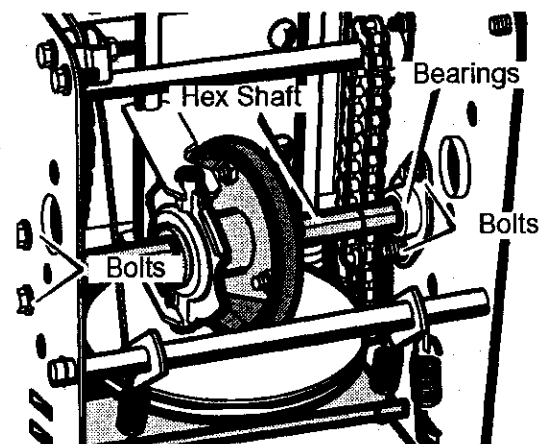

Figure 33
9. Remove the four **bolts** that hold the **bearings** on each side of the **hex shaft** (see Figure 33).